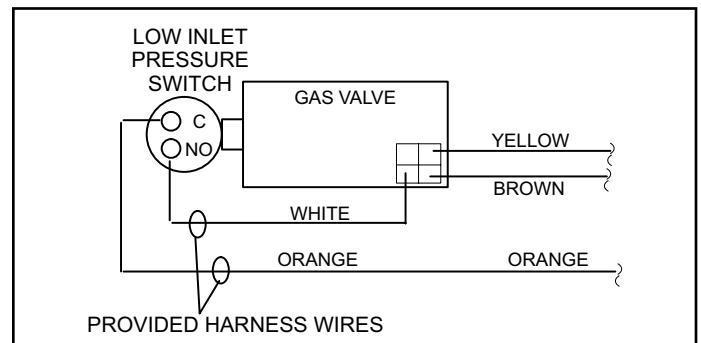

Figure 7. Low Inlet Pressure Switch Point-to-Point Wiring Diagram
11. Thread pressure switch to brass fitting 2 to 3 turns past hand tight, then wire as shown in Figure 7.